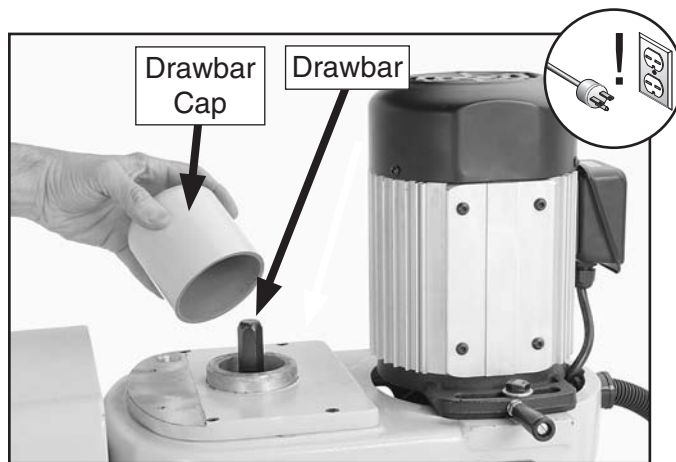

Figure 32. Drawbar inserted through the top of the spindle.
3. Remove the drawbar cap and place the drawbar through the top of the spindle if it is not already installed (see **Figure 32**).